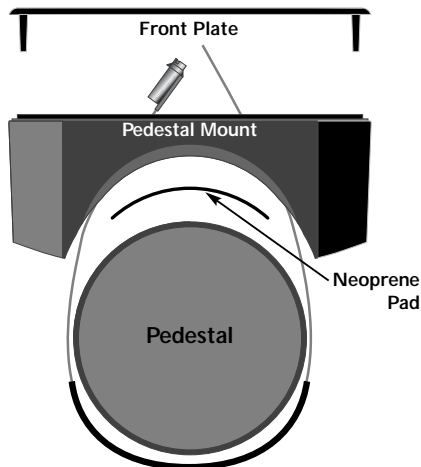

Fig 5.5 - Attaching clamp using band clamps
5. Slide the sleeving over the band clamps and thread the first clamp through the pedestal mount (using slots appropriate to the pedestal), around the pedestal and back in through the corresponding slot on the other side of the mount (Fig 5.5) -